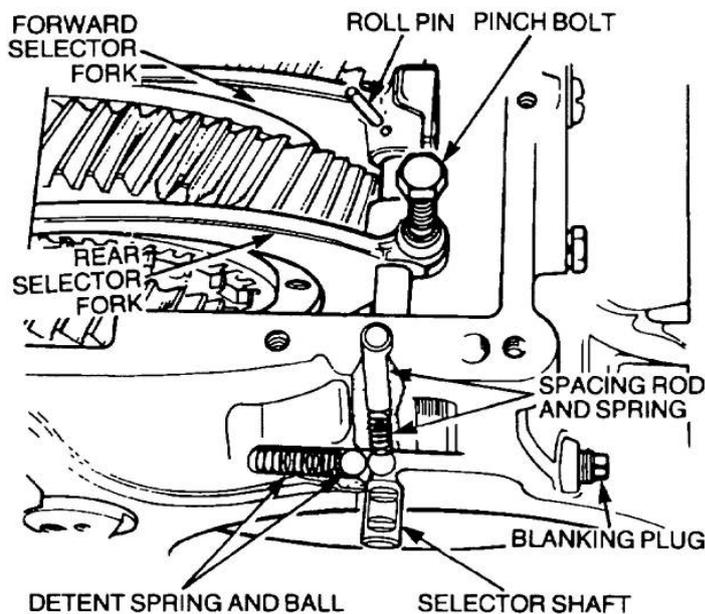

Figure 210 Removal of the Transfer Selectors
- v. Remove the roll pin securing the selector fork to the shaft (Figure 210) and move the selector to the front of the casing.
- o. Insert the detent spring in the transfer case drilling and install the detent ball (Figure 210). Push the ball against the spring and insert the selector shaft.
- q. Install the detent ball, spring and spacing rod into the vertical drilling. Smear a suitable sealing compound on the blanking plug threads and fit the plug into the casing (Figure 210).